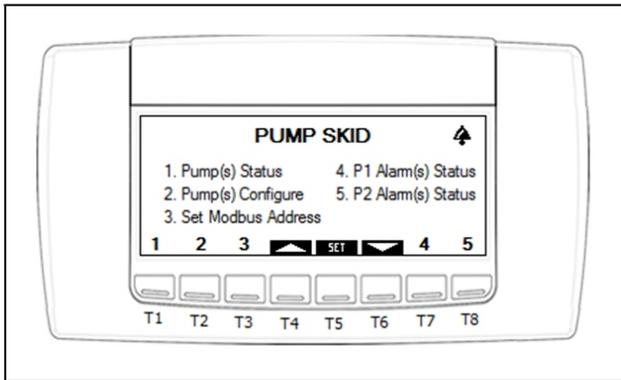

Figure 3-4 - Pump Skid controller Main Menu - Use the arrows to scroll to 3 to Set Address
- Five menu items are available to choose from (see **Figure 3-4**).